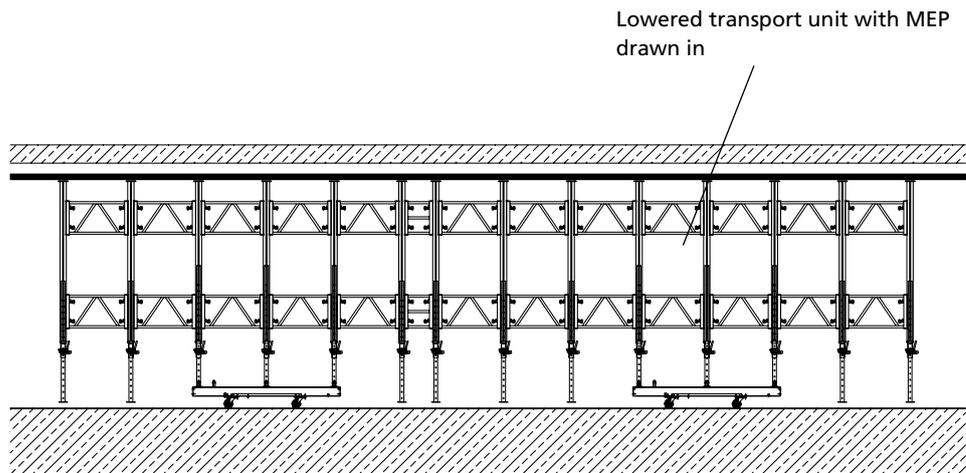

Fig. 31.2
1. Now also draw in all other props that are not attached to the transport walers (Fig. 31.2).
2. Lower the entire transport unit with the help of the props that are attached to the transport walers (Fig. 31.2).